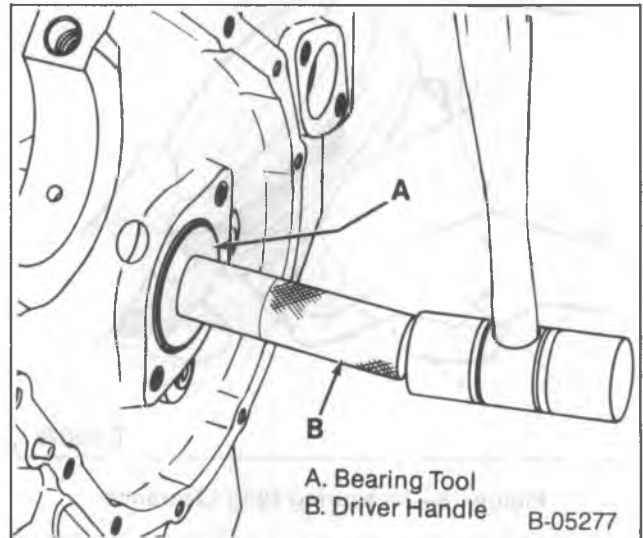

Figure 20—Removing or Installing the Outer Camshaft Bearings
3. Outer camshaft bearing. Use J 6098-01 (figure 20).
1. Outer camshaft bearings. Drive the bearings into place using J 6098-01 (figure 20).